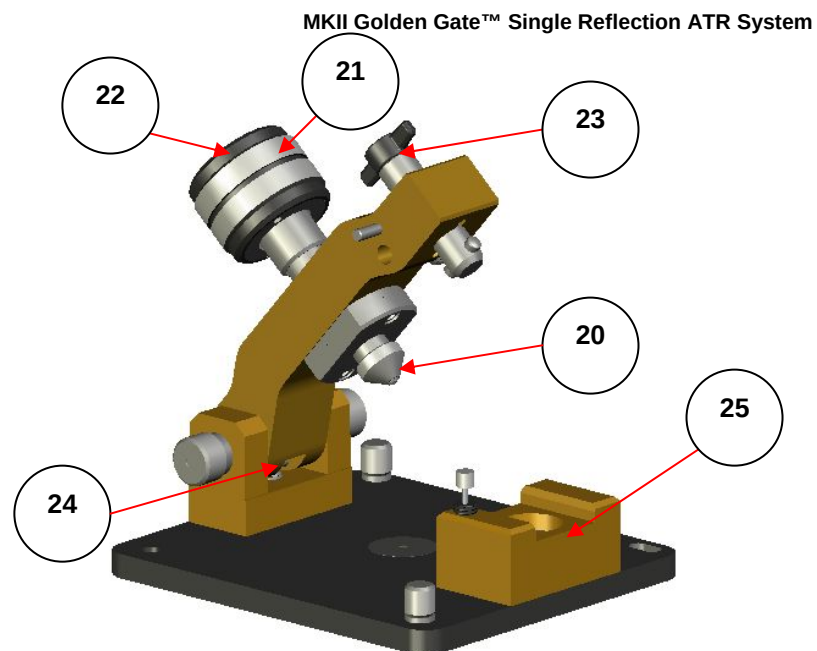

Fig 26: Angled View of MKII Diamond ATR Top Plate (Bridge Open)
At the hinge point of the Golden Gate™ clamp there is a spring ball bearing device (24) that prevents an open bridge from accidentally falling back down to its closed position on the bridge support (25). When sampling liquids there is no need to use the bridge as the sample will be in intimate contact with the crystal. This device allows the bridge to stay open for convenience when sampling liquids (see Fig 26).
Note: *There is no need to use an anvil and the bridge clamp. The bridge can remain open past the stay up catch (24). (See as Fig 26).*